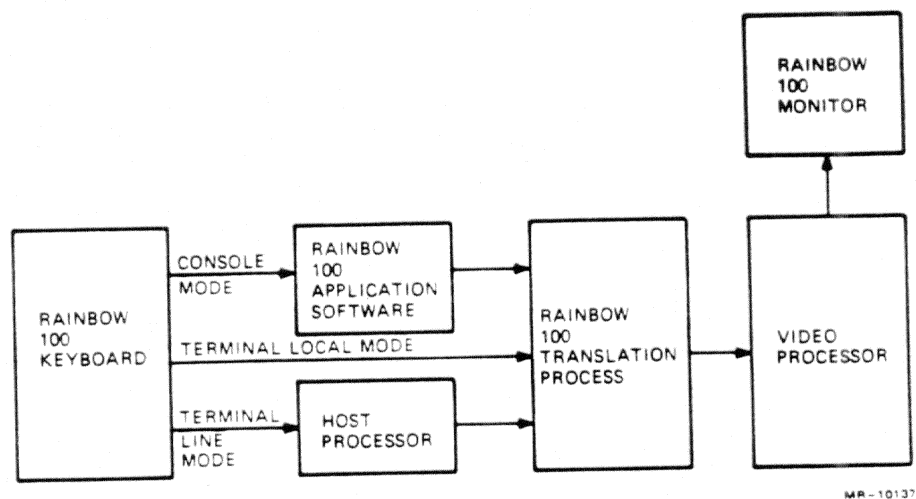

Figure 12-6 Keyboard Output Processing
Figure 12-6 illustrates the data paths in various Rainbow 100 computer modes. When character codes are input to the Rainbow 100 computer application programs in the console mode, the applications software is responsible for transmitting the actual codes for each key that is pressed on the keyboard. That is, if the **Escape** key is pressed, the applications software must send Rainbow 100 firmware the character code for the **Escape** key (27 decimal, 33 octal, or 18 hexadecimal). The same thing applies to host processor software, when the Rainbow 100 computer is in the line mode. In the local mode, keyboard outputs are transmitted directly to the translation process firmware.